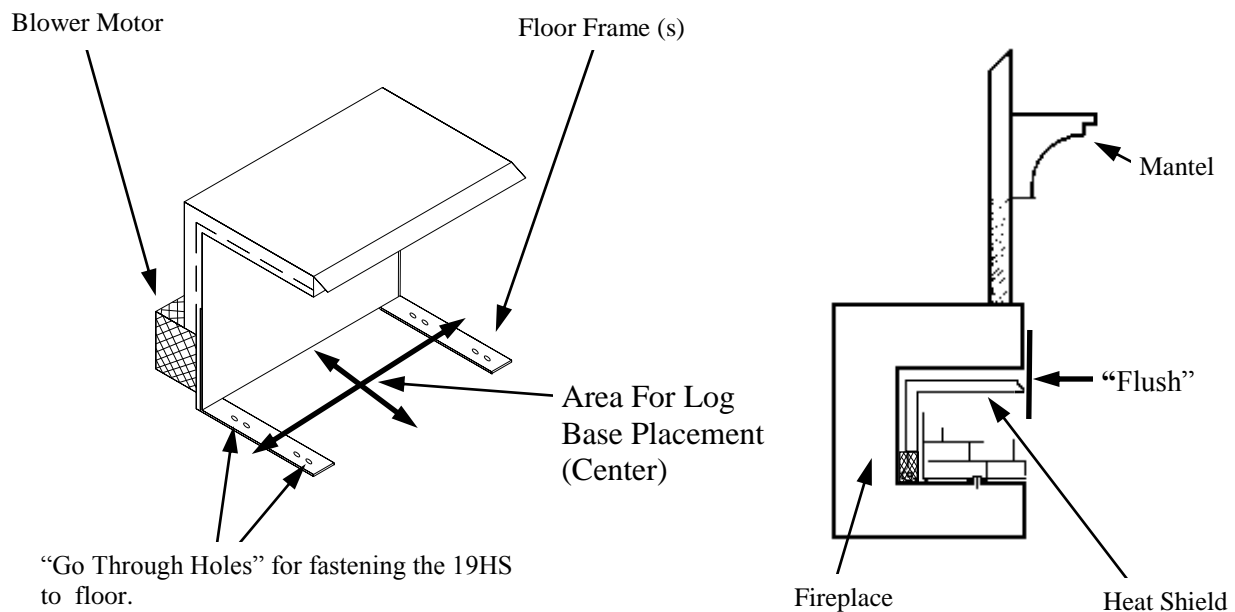

Figure 1
**NOTE:** Centrally locate Heat Shield in fireplace and place it deep enough into fireplace to accomplish adequate draft (if use as a vented heater is planned). Ensure that Heat Shield front is inside front edge of fireplace, see Figure 1. Using screws and anchor provided, fasten Heat Shield to floor of fireplace. On each side of floor frame of Heat Shield base, there is a “go through hole”. Position Heat Shield as described above. Mark hole for drilling. See Figure 1.